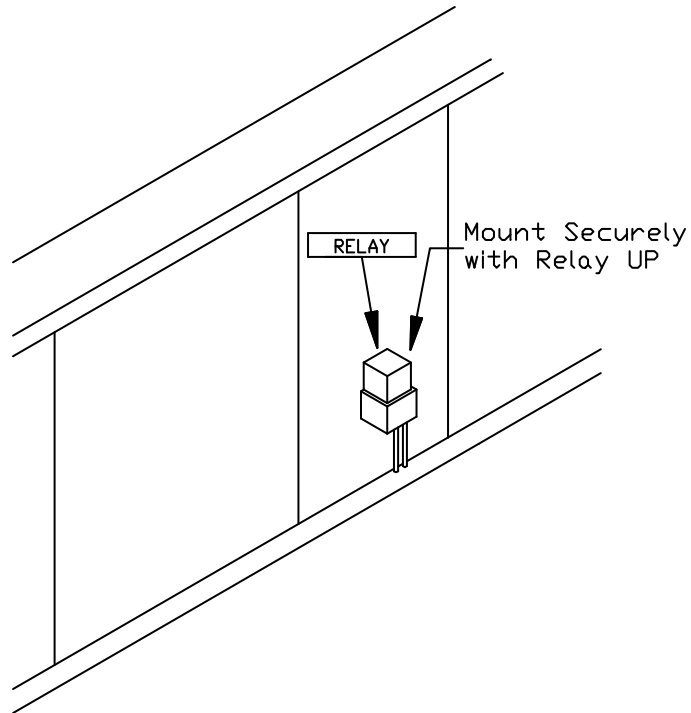

Figure 1.
- 7) Attach the relay securely inside of the engine compartment using one Sheet Metal Screw (HDW01766). The relay must be positioned upright as shown in Figure 1.